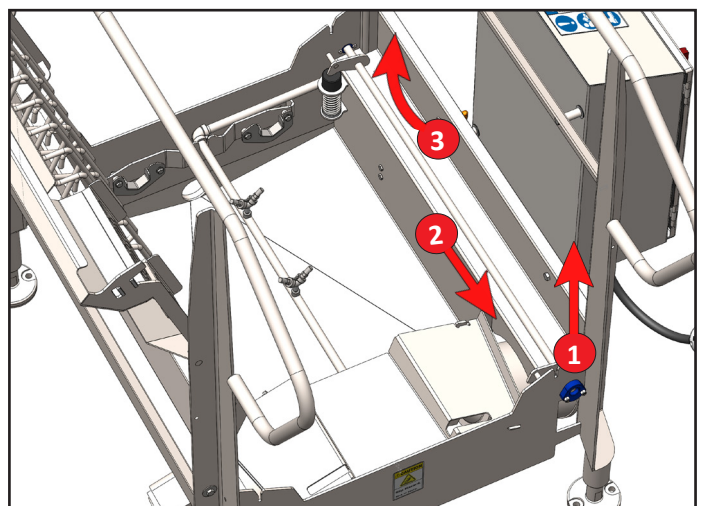

Fig. 10.2: Balancer Weldment removal procedure
2. Lift the end of the Spring Balancer into the upper section of its keyhole. [Figure 10.2 - Arrow 1]
3. Slide the Spring Balancer through the upper section of the keyhole to release its other end. [Figure 10.2 - Arrow 2]
4. Lift the free end up while sliding the Spring Balancer out the keyhole to remove from the tub. [Figure 10.2 - Arrow 3]